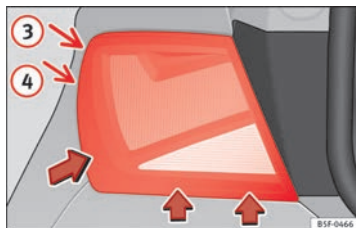

Fig. 197 Remove the rear light unit from side panel.
- Tilt the light in the direction of the arrows until it comes out (positions ③ and ④ ⇒ Fig. 197).